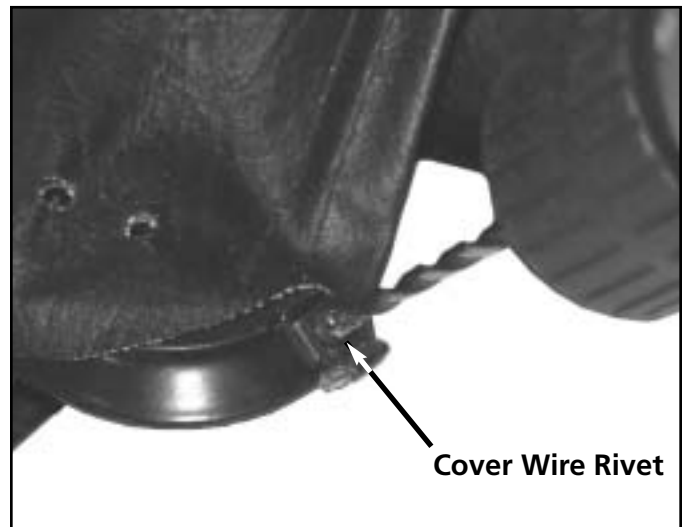

Figure S-78
4. Drill out the cover wire rivets on each corner. See figure S-78.